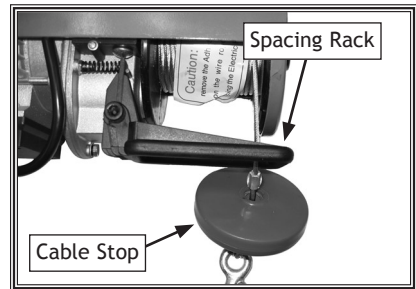

Figure 7. Safety stop mechanism.
- If the motor shuts OFF when the cable stop compresses the spacing rack (Figure 7), the safety stop microswitch feature is working correctly and the test run is complete.
- If the motor does not shut OFF when the cable stop compresses the spacing rack, immediately release the UP/DOWN switch. This safety feature must work properly before proceeding with regular operations. Call Tech Support at (360) 734-3482 for assistance.